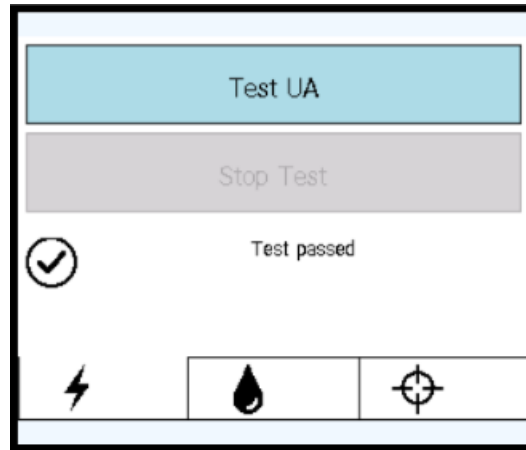

Figure 12: RF tab on PSIB display after successful RF connectivity test
- c. In the **RF** tab of the PSIB display (*Figure 12*), click **Test UA**.
When the RF connectivity test is complete, the PSIB will display a short message (*Figure 12*). You can see detailed RF connectivity test results in the RF information box of the TDC software (*Fig-*